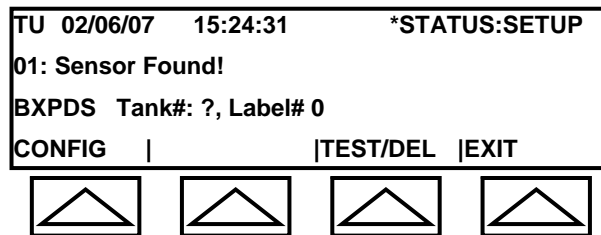

Fig. 4-9c: Config. – Finding Sensors
2. Each time a sensor is found, the system will assign it a number and briefly display it on the LCD as illustrated in Figure 4-9c.
Note: When selecting CONFIG during subsequent programming, Figure 4-9c will be displayed only if new sensors are found.